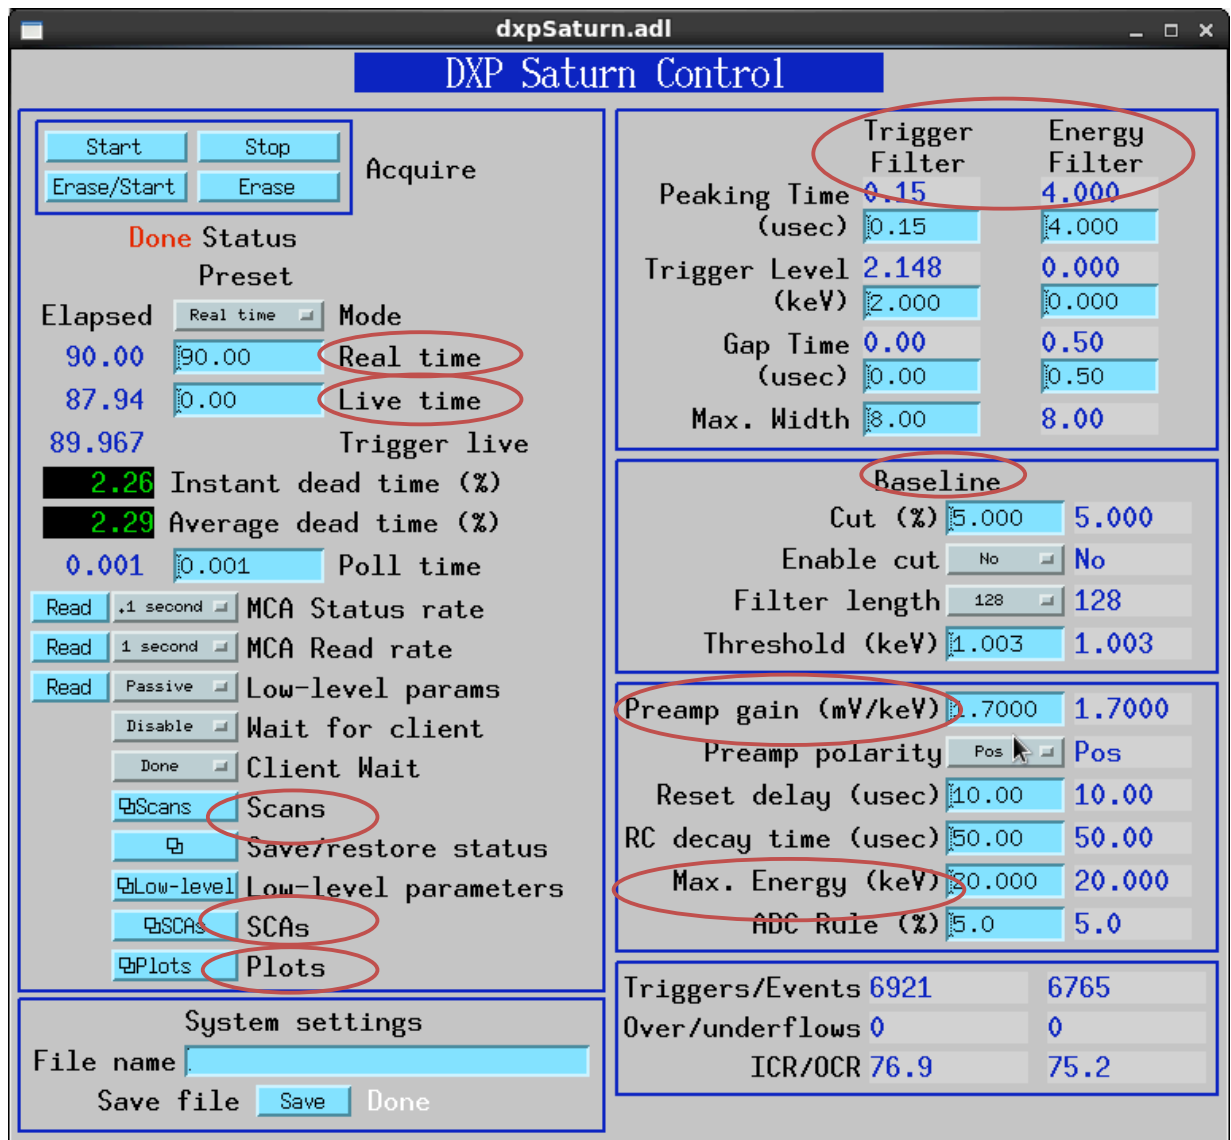

Figure 7: MEDM control screen for Vortex
- In figure 7, **Real Time** is equivalent to “clock time.”
The DXP implements two filters, each with a specific purpose (Figure 7, upper right).
Preamp Gain and **Max Energy** (Figure 7, lower right) tend to move around features (peaks) within the MCA spectrum. They should be adjusted carefully.